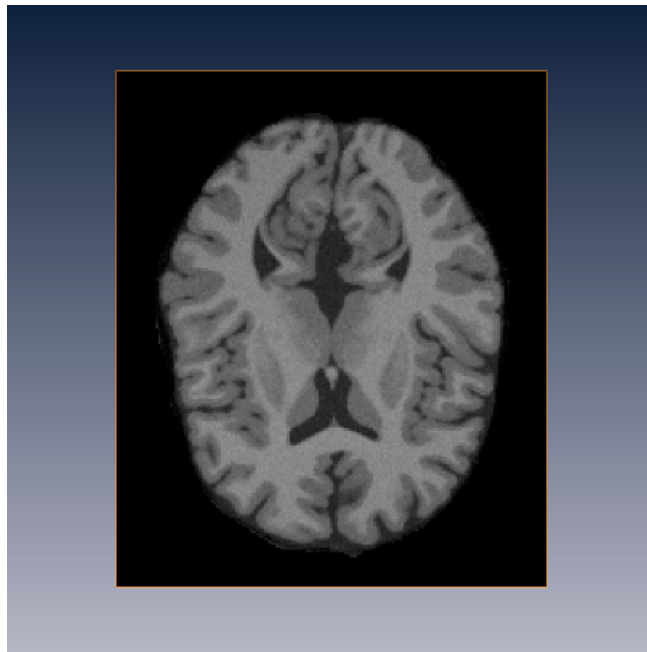

Figure 17.6: Central axial slice of the skull stripped reference data set
- In the *Expr.:* field of *Arithmetic* enter $A * (B > 0)$ and click *Apply*. Attach an *OrthoSlice* to the *Result* object. The display should look similar to Fig. 17.6.